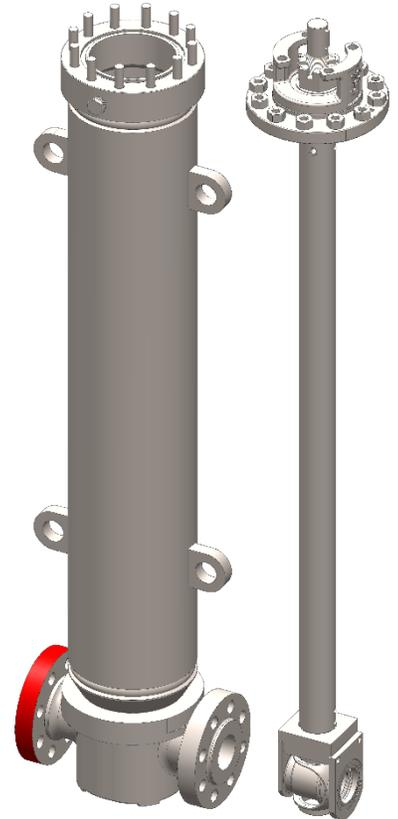

Figure 1: Cartridge Removal/Installation
- If the valve is equipped with integral bonnet and stem extension cartridge, remove the cartridge from the valve body, Figure 1.